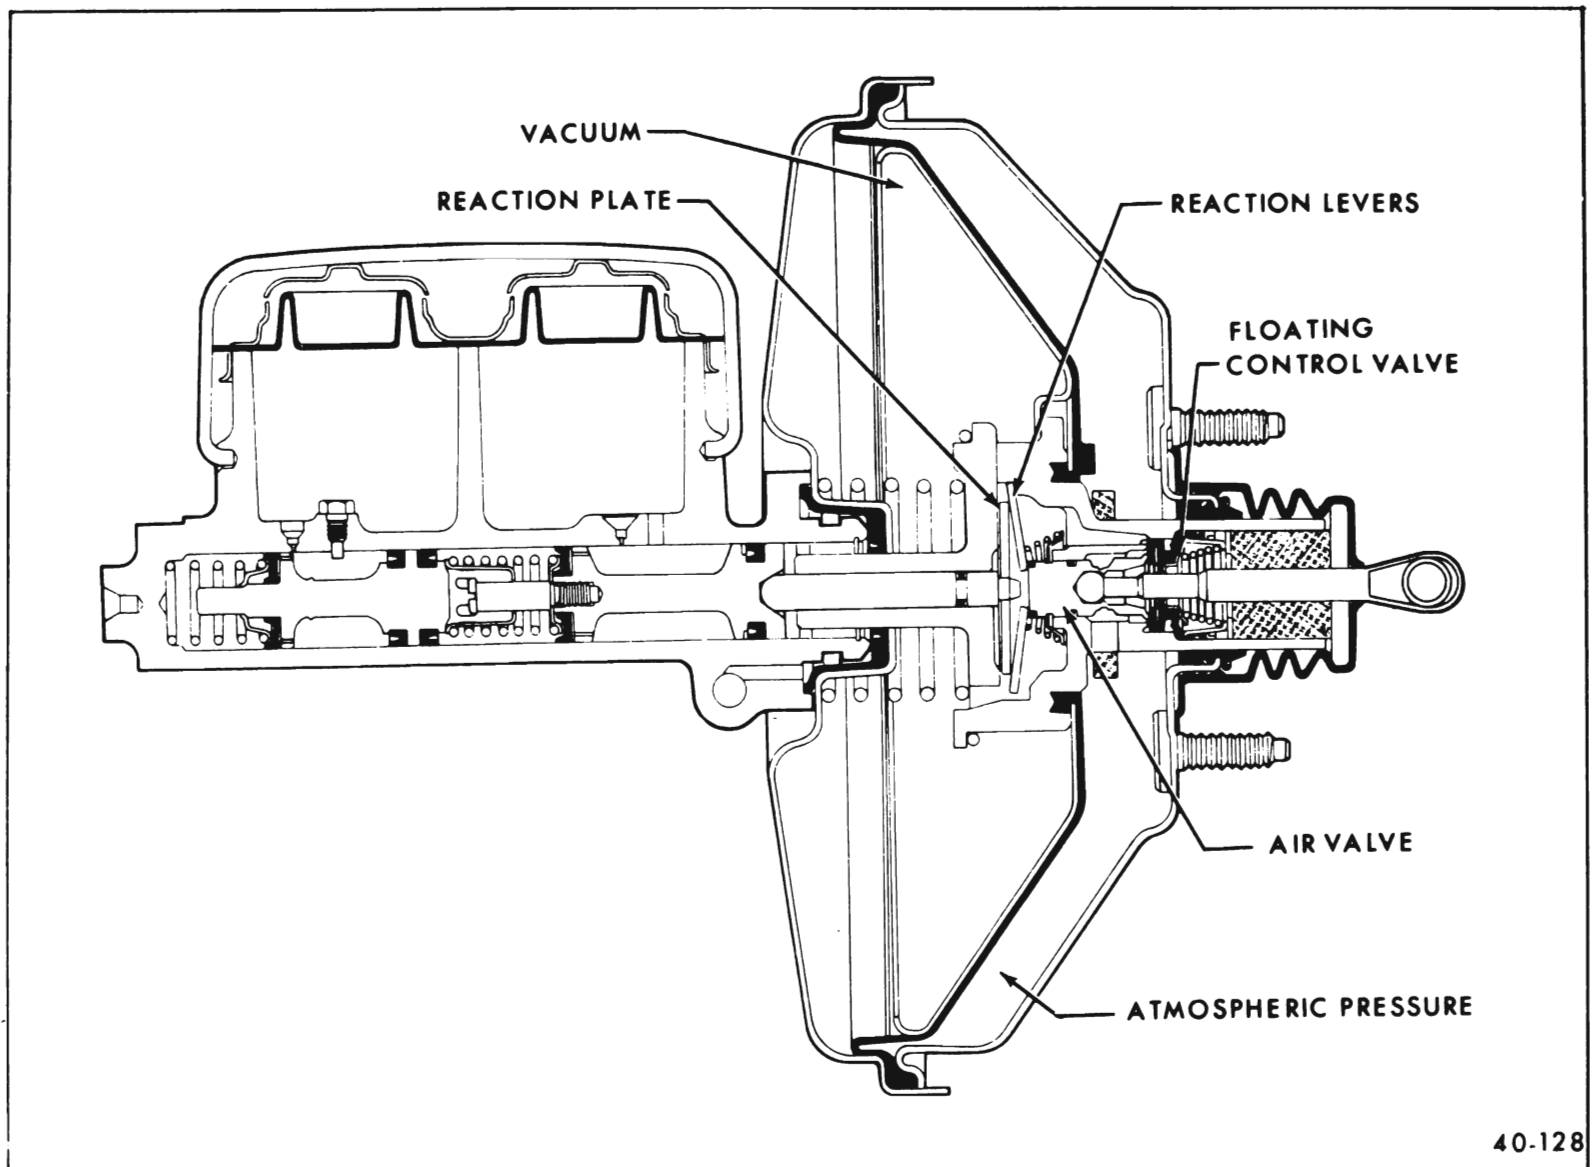

Figure 50-77 Power Brake Unit - Holding Position
3. Holding Position. When the desired pedal pressure is reached, the power piston moves to the front until the floating control valve, which is still seated on the power piston, again seats on the air valve. The power brake will now remain stationary, until either pressure is applied or released at the brake pedal. See Figure 50-77.